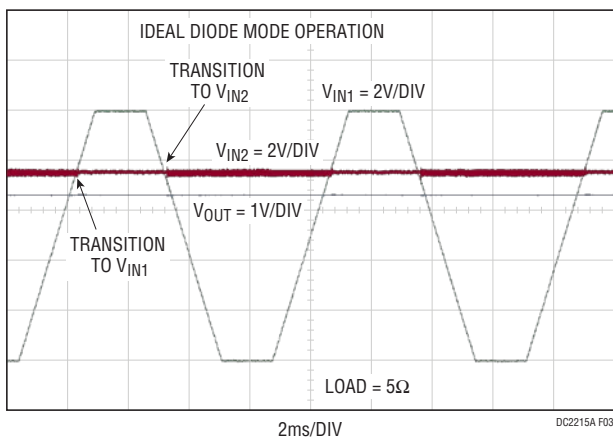

Figure 3. The LTC3126 Monitors the Voltage on V_{IN1} and V_{IN2} and Selects the Higher of These Voltages in Ideal Diode
12. Change JP2 to "DIODE". By adjusting the voltage on V_{IN1} from 10V to 0V and back the converter operates from V_{IN1} while V_{IN1} is above approximately 7.5V and from V_{IN2} when V_{IN1} is below approximately 7.5V. (See Figure. 3).